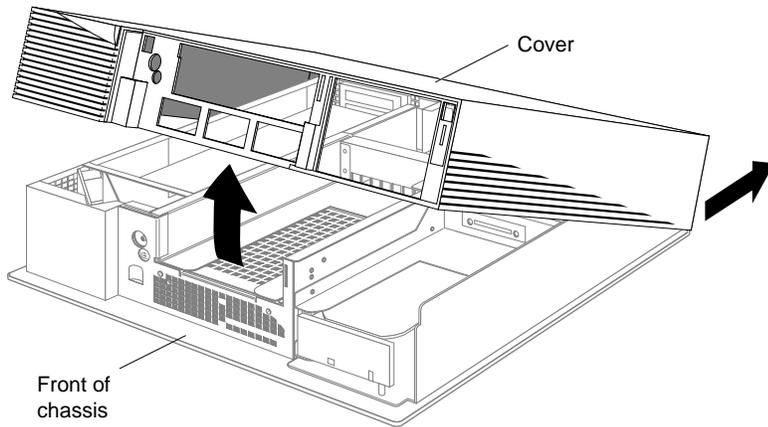

Figure 2-6 Removing the Cover
5. Pull up on the cover and rotate it back and away from the chassis (Figure 2-6).